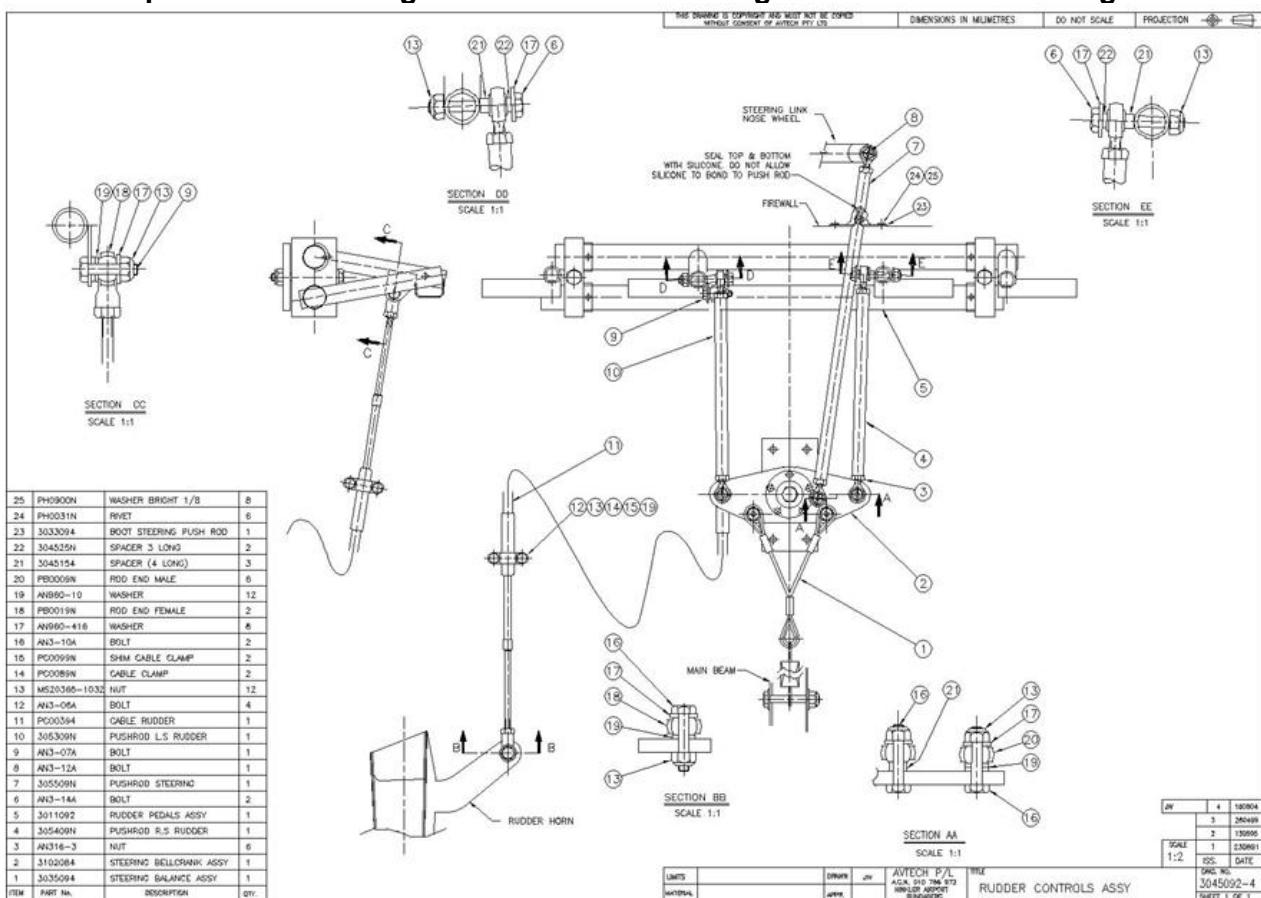
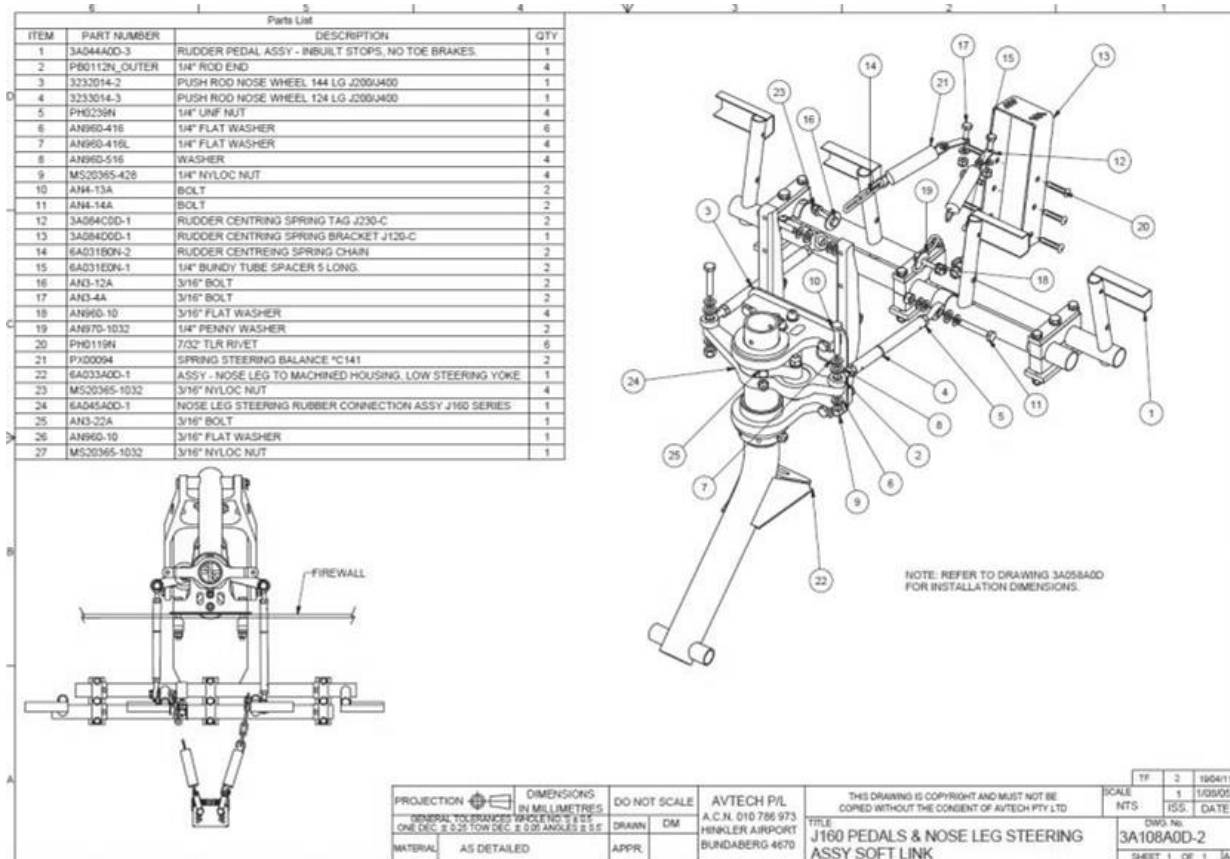

Figure 144 – Steering/Rudder Centring Assy – Type 1 (all J-Series)
Figure 148 – Steering/Rudder Centring Assy – Type 3 (Includes Soft Link)
- The drawings shown in Figure 144 through to Figure 148 show several variations of the systems used.